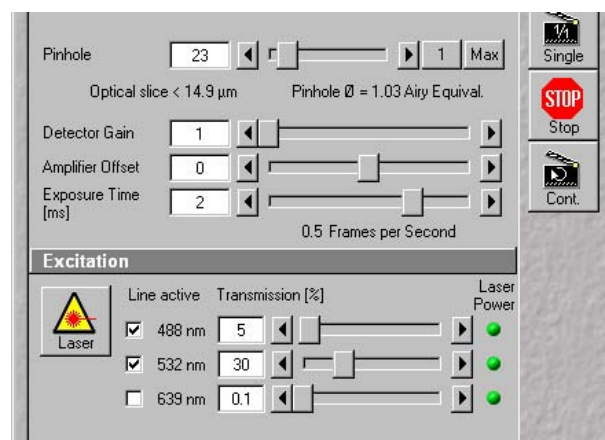

Fig. 20 Scan Control window, Channel settings
- Set the **Pinhole** to **1** Airy Unit (Fig. 20).
- When the image is saturated, reduce AOTF transmission in the **Excitation** panel (Fig. 20) using the slider to reduce the intensity of the laser light at the specimen.
- Increase the **Amplifier Offset** until all blue pixels disappear, and then make it slightly positive (Fig. 20).